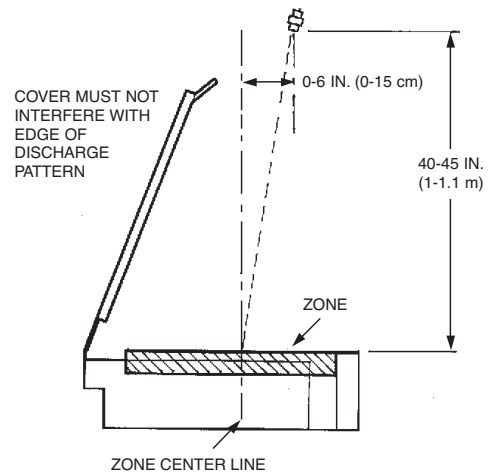

FIGURE 72
- * See Figure 72 for nozzle location